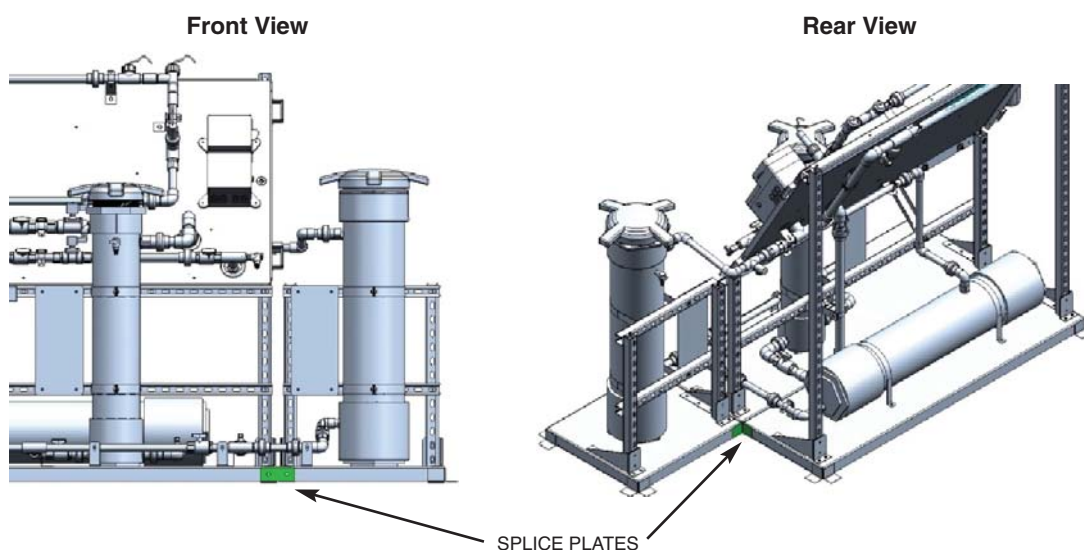

Figure 9 – Attach MRF Module
- 2.10 Connect the **MRF** Module to the right side of the **BCF-NX** Module. It will be necessary to remove shipping brackets to properly join modules. Reuse shipping bracket hardware to attach the supplied splice plates across the front and rear joints between modules. See Figure 9.